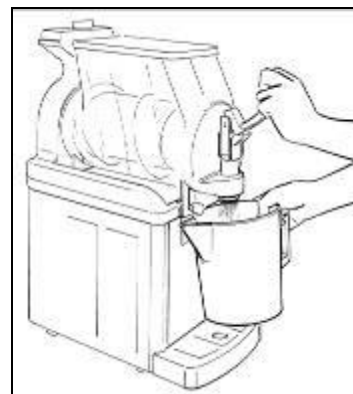

Fig. 4
- Make the unit working in the wash mode for some minutes and then empty the bowl and repeat the same operations until the coming out water is clear (fig.4).